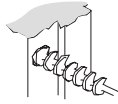

Figure 4b
- Drill 1" (25mm) hole 1-3/16" (30mm) deep in door jamb on center mark (Figure 4b).
- If the hinges are on the right your door is Right Handed (Figure 4b).